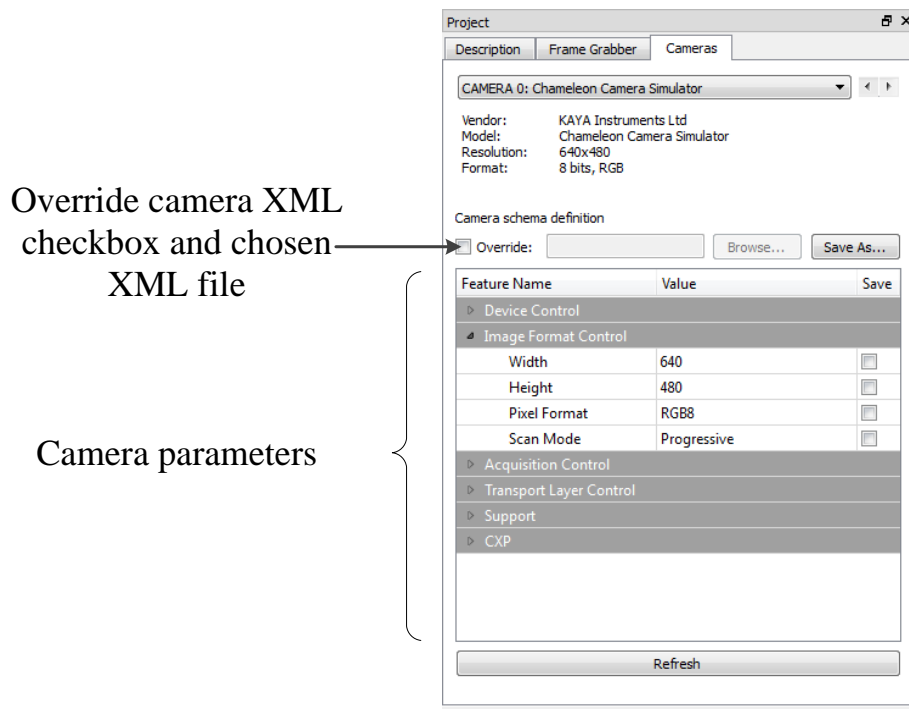

Figure 7 : Camera navigator tab
4. A Camera tab enables configuring the camera GenCam parameters listed in the camera XML file. An external XML file may be loaded in the absence of a native one from the camera. The camera tab is shown in Figure 7.